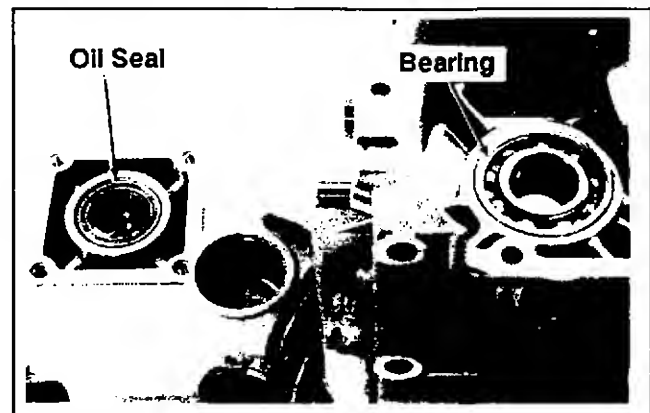

Figure 9-34. Removing Crankshaft Oil Seals And Bearings.*
1. Remove the oil seals from the crankcase and closure plate. See Figure 9-34.